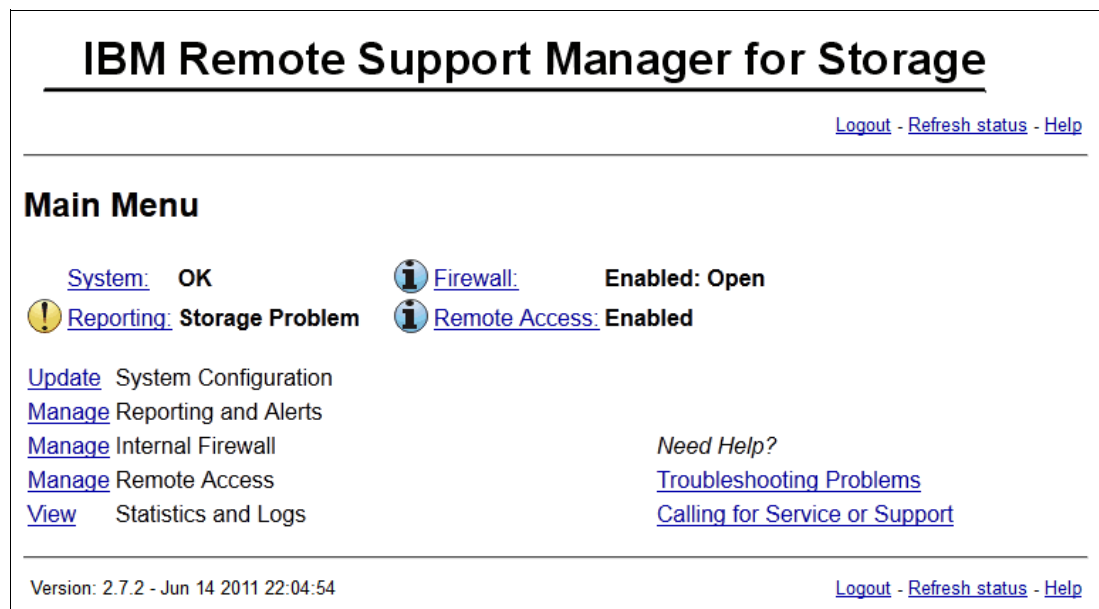

Figure 6-31 Main Menu: Storage Problem
1. When RSM receives SNMP alerts from one of the defined storage subsystems, an attention mark (!) is shown next to the reporting link, as shown in Figure 6-31. Click **Reporting** to see the alerts.